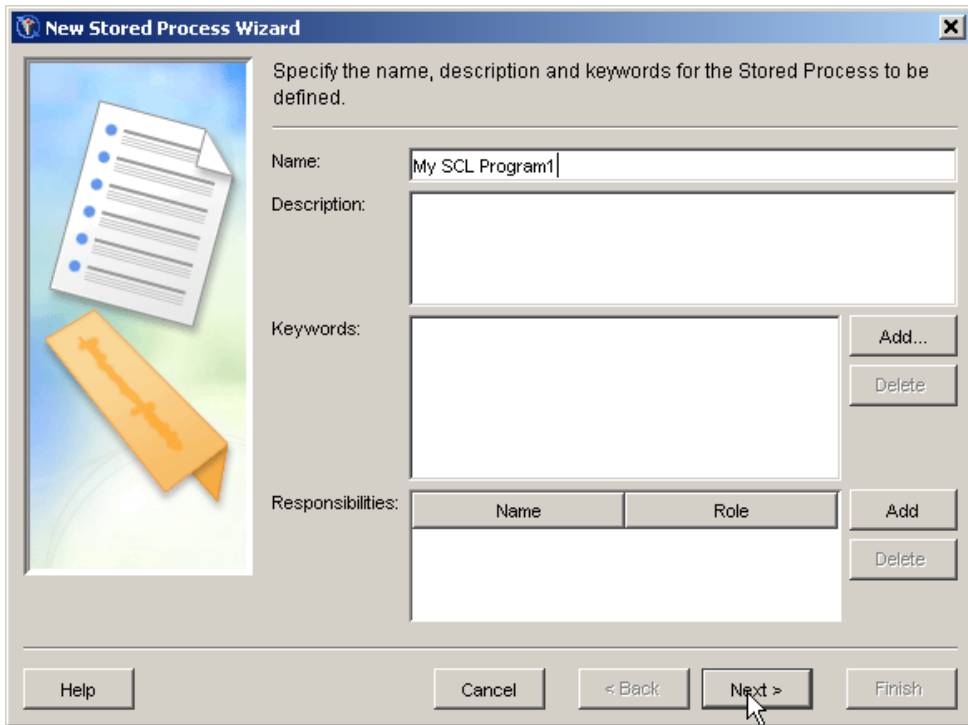

Figure 3. Name the stored process
- a. Enter the following information in the first screen of the wizard (see Figure 3) and click NEXT.